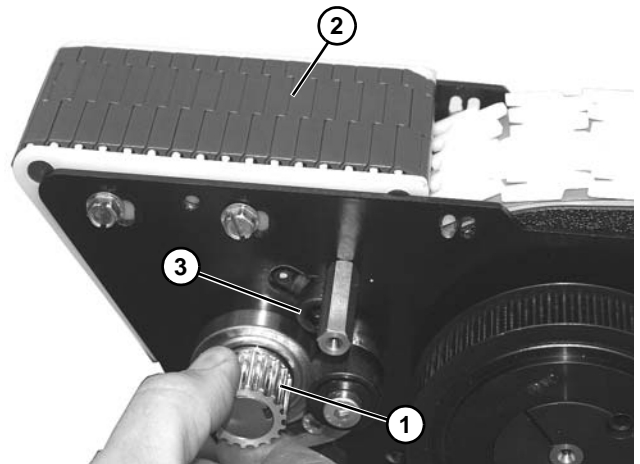

Figure 124
9. Rotate drive shaft (Figure 124, item 1) to verify tightness of belt (Figure 124, item 2). Belt should turn freely. Loosen socket head screw (Figure 124, item 3) and adjust, if necessary.